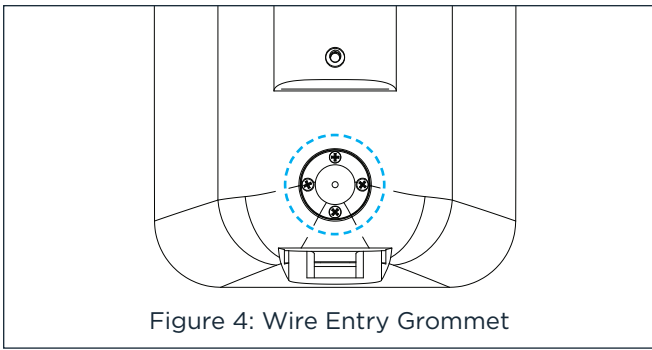

Figure 4: Wire Entry Grommet
5. Feed the speaker wire from the bracket into the wire entry grommet on the back of the speaker, through the wire tunnel and out the opening on the speaker's front panel (see Figure 4).